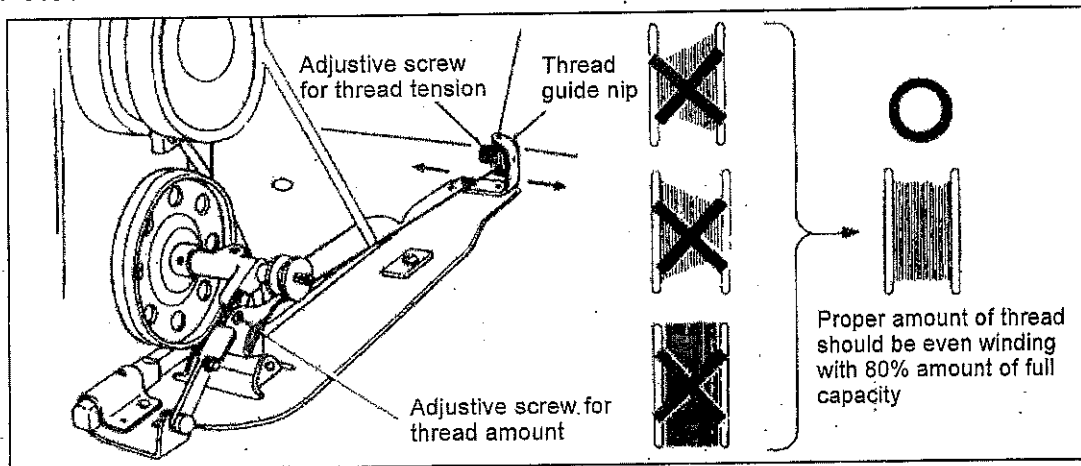

Fig.6
Pass the thread through the thread guide (6) from the thread stand, wind it few times anticlockwise on the bobbin and put the bobbin on the winder shaft (1). Switch on the motor and depress the treadle lightly to start the machine and by this winder as well. The winding amount (See Fig.6) is 80% of full capacity. It can be adjusted by loosening the screw (4) of the control lever (5) mounted on the disconnecting pin (3). When the winding is completed, using the knife mounted in the spring (2) cut off the thread end.
2) Outside winder (Fig.6)